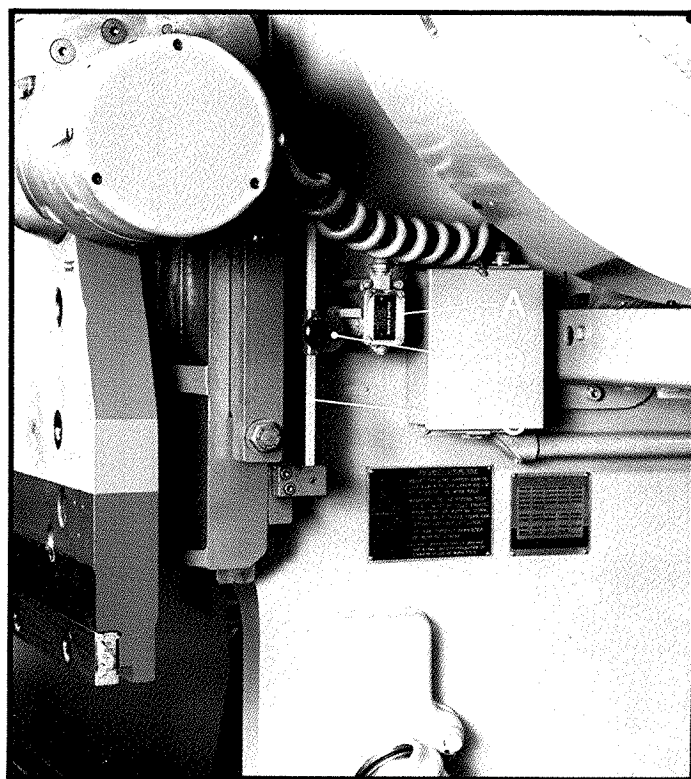

FIGURE 50
The stroke stop mechanism (Figure 50) consists of a limit switch (A) mounted on the right housing, an adjustable cam (B) and cam rod (C) mounted on the right ram slide. The cam is positioned so that when the ram moves down (the rod moving with the ram) the cam will trip the stationary limit switch and stop the ram just above the workpiece. This permits the operator to position the workpiece in the tooling. The operator control is then depressed or jogged to complete the forming operation and the ram returns to top of the stroke and stops.